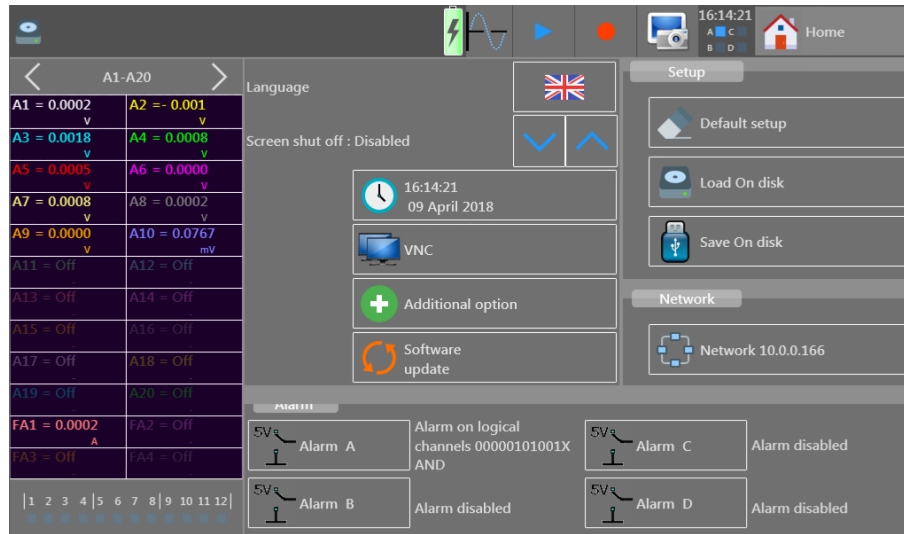

Figure 2.2: Setup Screen
- If the unit still starts normally: reinitialize to the default settings. From the main menu open the “Setup” menu, then click on the “Default setup ” key. See Figure 2.2.